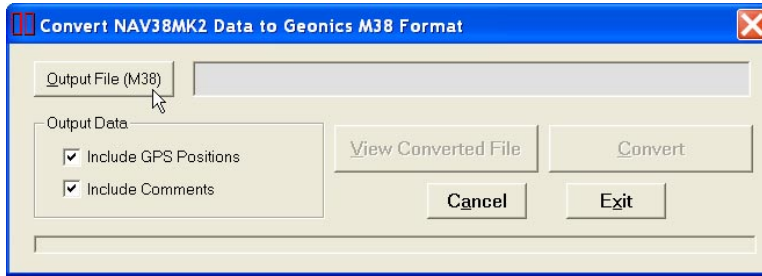

Figure 4.3: Convert NAV38MK2 Files to Geonics M38 Format
After the selected menu item is clicked the Convert NAV38MK2 Files (382) to Geonics M38 Format window will be displayed in the centre of the screen, Figure 4.3.